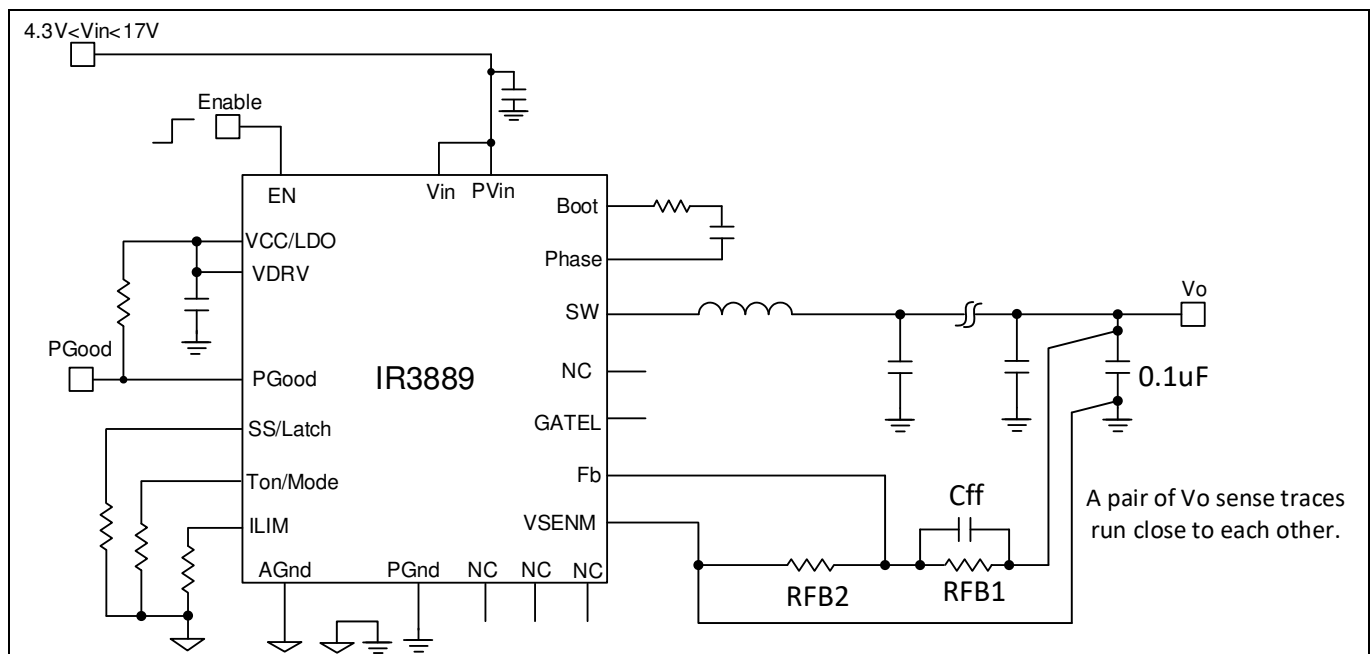

Figure 24 Pseudo remote V_o sense configuration
- If it is required to sense the output voltage at a remote location, pseudo remoting sensing can be implemented as follows. The configuration is also shown in Figure 24.